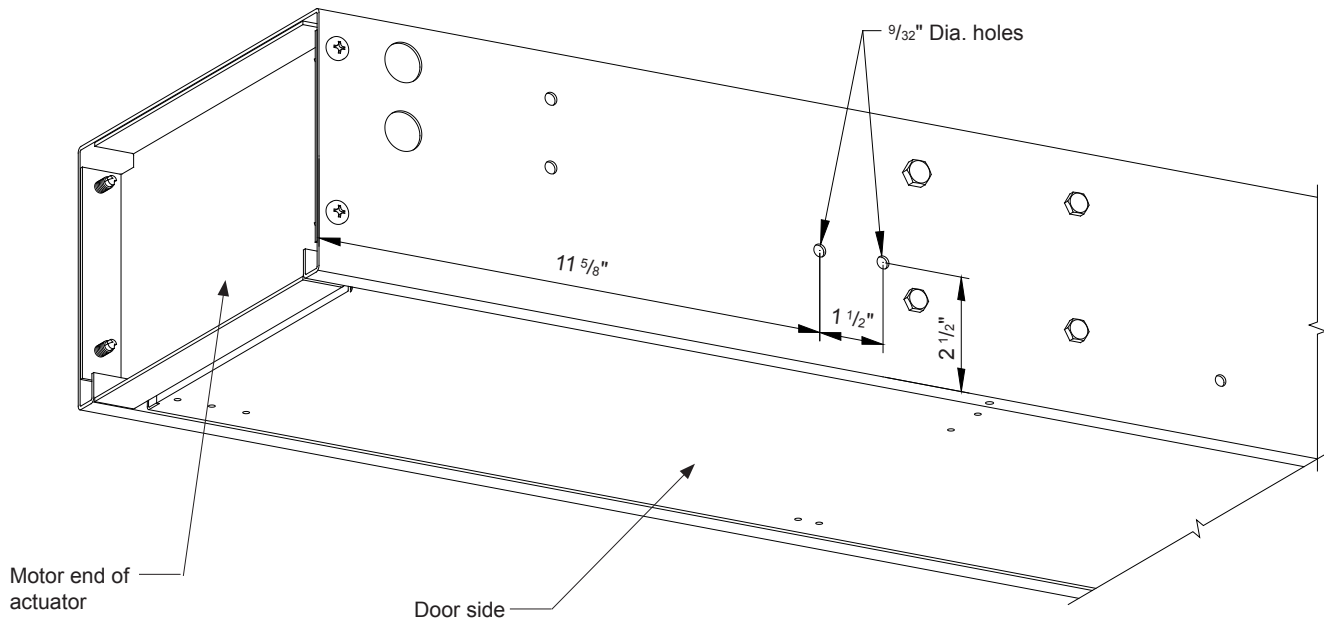

Figure 3
Using a $\frac{9}{32}$ " drill bit, drill (1) hole at the $11\frac{5}{8}$ " from the motor end of BA4000 and $2\frac{1}{2}$ " from the top edge of the door opening. Drill a second hole $13\frac{1}{8}$ " from the motor end of the BA4000 and $2\frac{1}{2}$ " from the top edge of the door opening. **See Figure 3.**